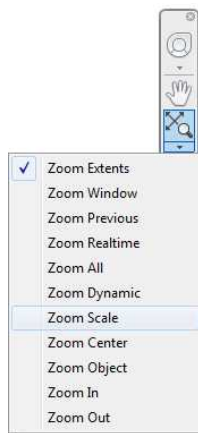

FIGURE 4.16: Selecting the Zoom Scale option from the navigation bar
3. Expand the Zoom option found on the Navigation bar (Figure 4.16) and click Zoom Scale.